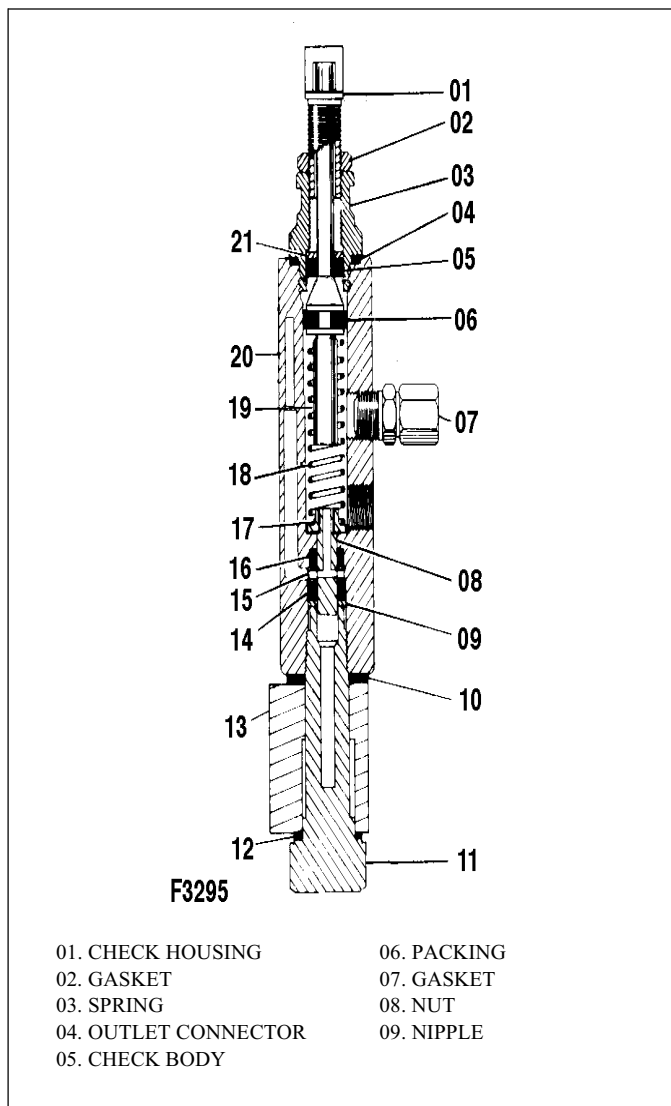

Figure 10-43. Elbow Union with Check Valve
ELBOW UNION REMOVAL AND DISASSEMBLY. Refer to Figure 10-43 and proceed as follows:
1. Install new packing (06) on check body (05). Place spring (03) into check body (05).
2. Install new gasket (02) on check housing (01). Place the check body and spring into outlet connector (04) and install onto check housing (01).
3. Thread the hose onto nipple (09) making sure nut (08) is on the nipple positioned as shown in Figure 10-43. Place new gasket (07) on nipple (09).
4. Install the hose assembly onto the check valve portion of the elbow union by threading nut (08) onto outlet connector (04).
ELBOW UNION ASSEMBLY AND INSTALLATION. Refer to Figure 10-43 and proceed as follows: